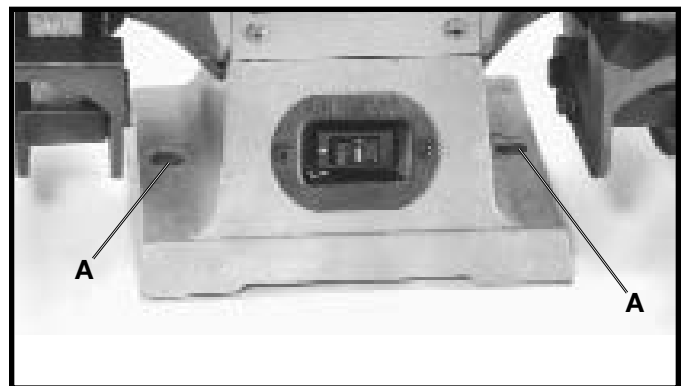

Fig. 8
IF DURING OPERATION THERE IS ANY TENDENCY FOR THE GRINDER TO TIP OVER, SLIDE OR "WALK," THE GRINDER MUST BE SECURED TO THE SUPPORTING SURFACE THROUGH THE TWO HOLES (A) FIG. 8, IN THE GRINDER BASE.